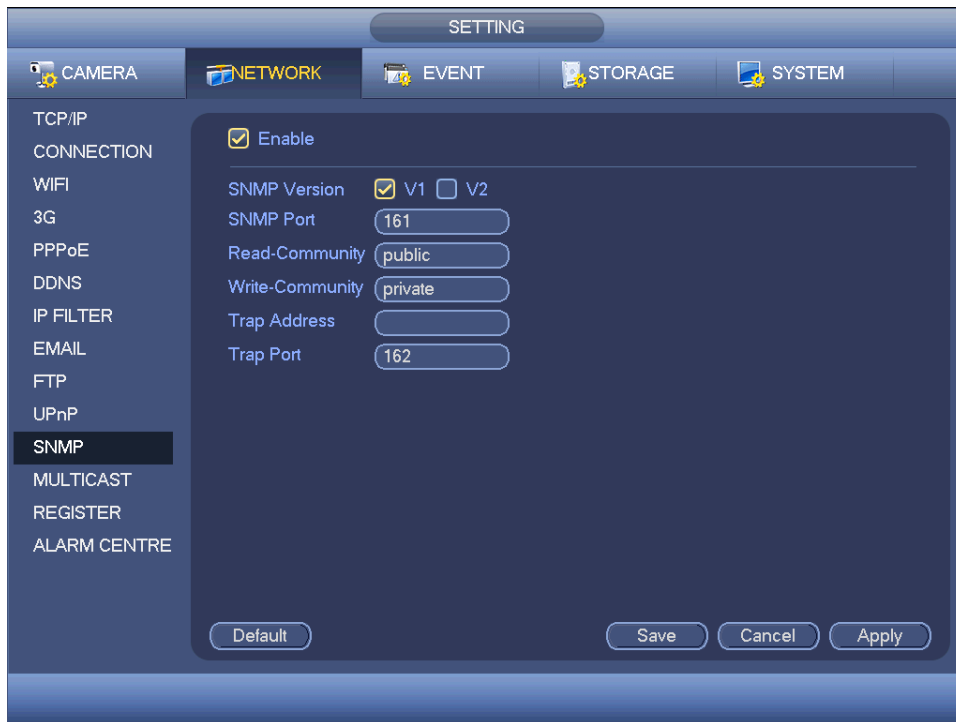

Figure 4-86
You can set in the following interface. See Figure 4-86.
- In Figure 4-86, check the box to enable the SNMP function. Input the IP address of the PC than is running the software in the Trap address. You can use default setup for the rest items.